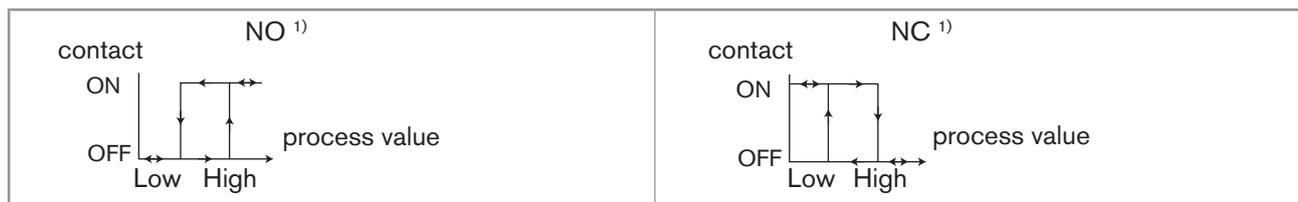

Fig. 38 Hysteresis operating
**MODE:** choose the operating mode for transistor output 1 or transistor output 2. See Fig. 38 and Fig. 39.
**LOW:** enter the low switching threshold value for transistor output 1 or transistor output 2. See Fig. 38 and Fig. 39.
**HIGH:** enter the high switching threshold value for transistor output 1 or transistor output 2. See Fig. 38 and Fig. 39.
**CONTACT:** choose the type of off-position (normally open, NO, or normally closed, NC) for transistor output 1 or transistor output 2. See Fig. 38 and Fig. 39.